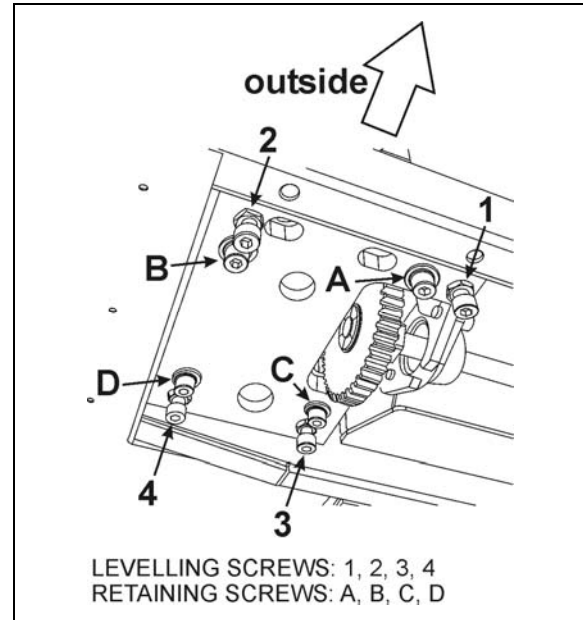

FIGURE 23 : SLIDE-OUT LEVELING
4. From the mechanism access panel, remove the retaining screws A, B, C & D (see FIGURE 23).
Leveling of the slide-out is done by changing the linear bearing support plate height using the leveling screws 1, 2, 3, 4 (figure 23). When
The slide-out is slightly tilted. When retracting, the upper "in limit" stoppers touch first the vehicle structure, followed by the lower "in limit" stoppers. Tilt adjustment is done by changing the linear bearing support plate inclination using the leveling screws 1 & 2 as pivot and 3 to adjust the angle (figure 23).
2. From under the support plate, remove the acetal plastic block mounting screws (see the oblong holes on figure 23).